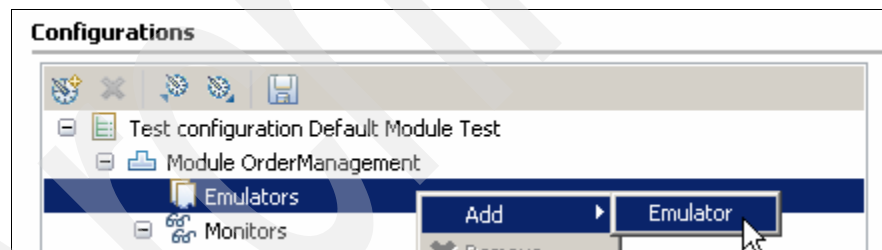

Figure 7-31 Add an emulator
- b. Select **Emulators**, right-click and select **Add** → **Emulator** as shown in Figure 7-31.